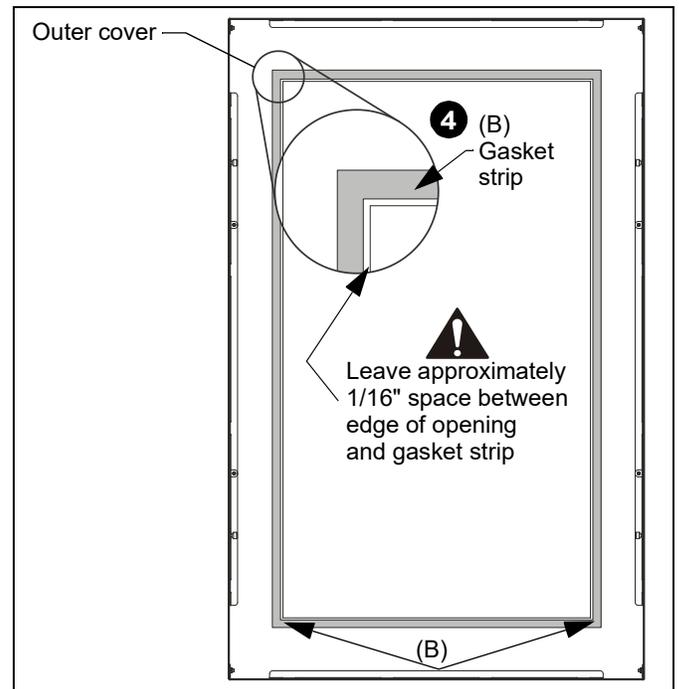

Figure 9
3. Clean the inside edge of the outer cover (approximately one inch depth around entire opening) with an alcohol wipe or something similar, and let dry. (See Figure 9)
4. Install gasket strip (B) around inside edge of outer cover opening. (See Figure 9)